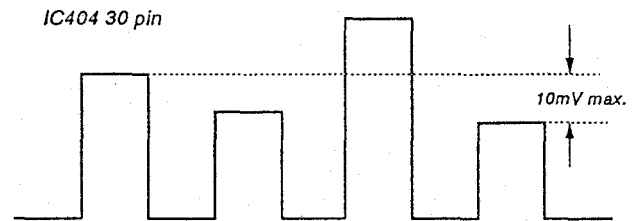

Fig. 13
- 4) Using **[NTSC CHROMA NORMAL]**, adjust so that the tops of the waveform line up as in the diagram below. (Fig. 13)